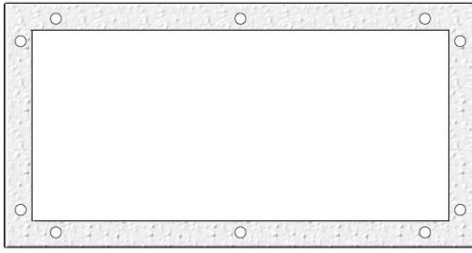

Figure 2: 16in x 8.3in white insulation gasket (UFS # 22876); two of these gaskets are used for this procedure
- a. A first gasket, made of white insulation material (UFS #22876; see Figure 2), will be placed against the vat wall.